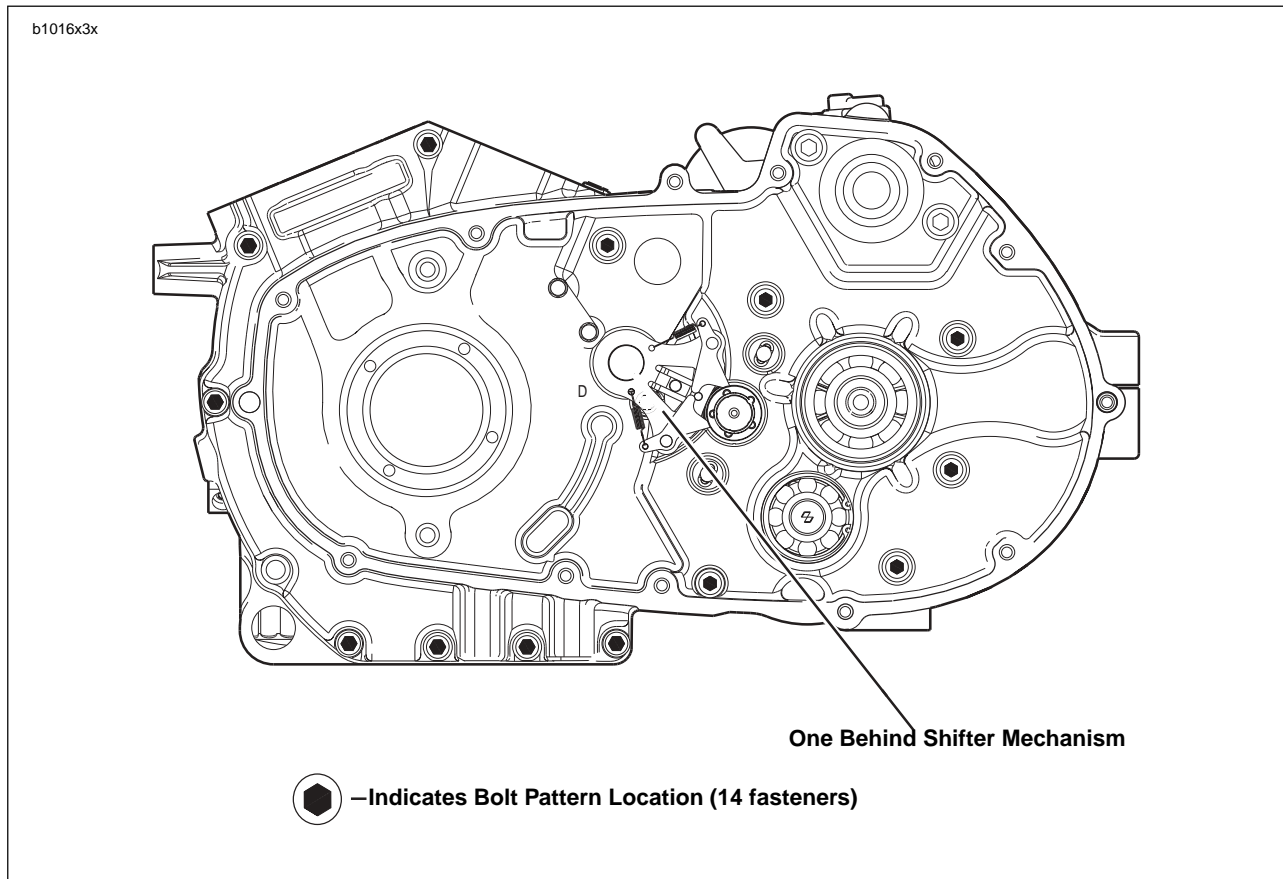

Figure 6-47. Crankcase Fasteners
16. See Figure 6-47. Remove crankcase bolt set (14 fasteners).